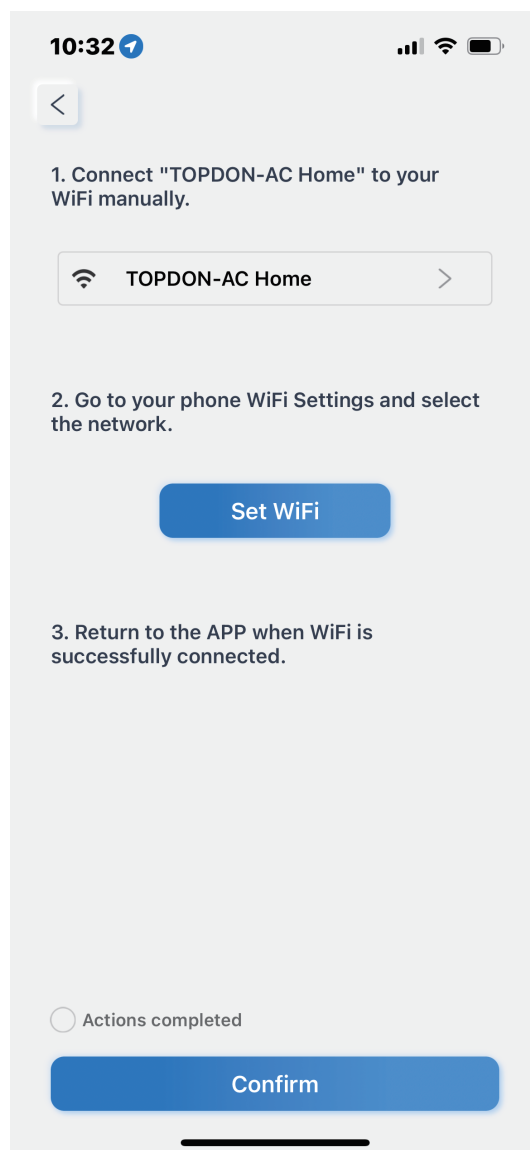

Fig.6.1.8
8. Once the above steps have been done, tap the Confirm to complete the procedure. (See Figure 6.1.8)